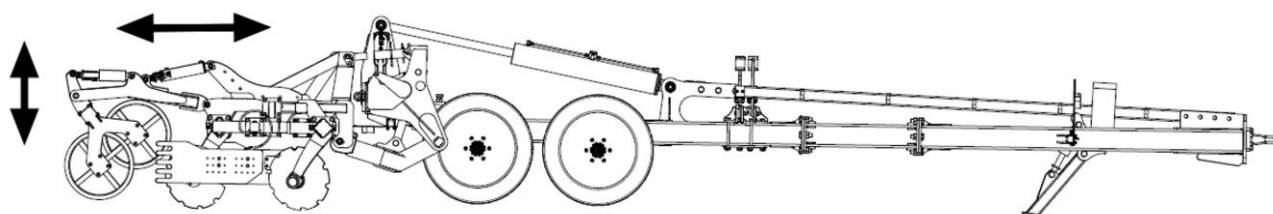

Figure 42 Adjusting the height and angle of attack of the operating rollers.
- 6) Carry out adjustment of the working rollers using the hydraulic roller adjustment actuators (fig. 42),
- 7) Set the correct height and angle of attack of the working rollers in relation to the ground (fig. 42)